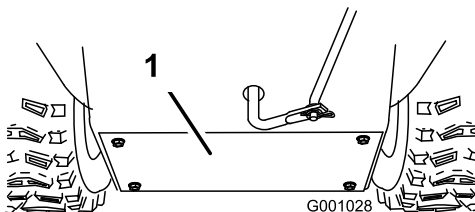

Figure 55
3. Remove the back cover (Figure 55).